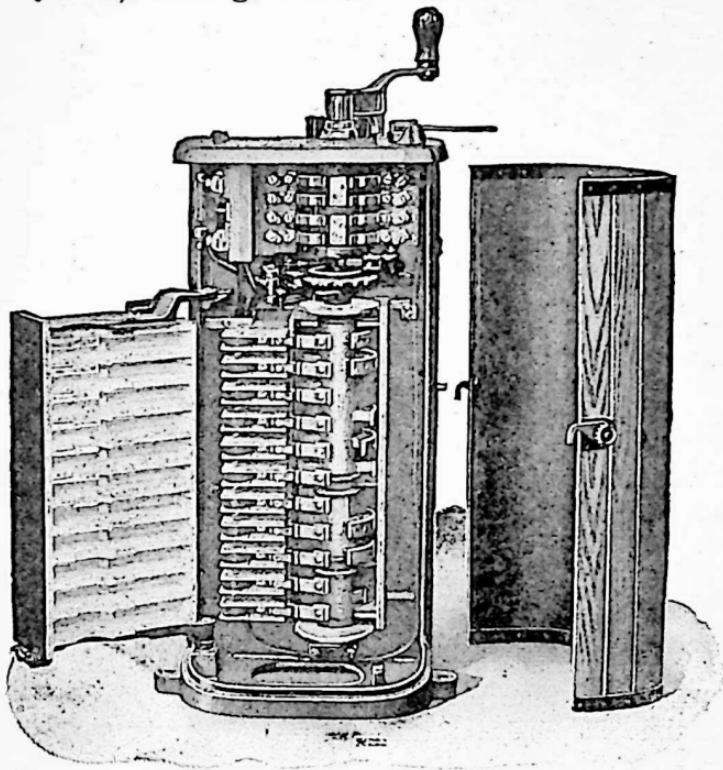

FIG. 153. General Electric controller for the motors of a trolley car; acts like a set of switches.
73. Series-Parallel Control for Electric Cars. Most electric cars have at least two motors, which are of the series type. The controller shown in Fig. 153 is in the front of the car, and is operated by the motorman. It acts as a set of switches which throw out the starting resistances, etc. When the controller handle is advanced